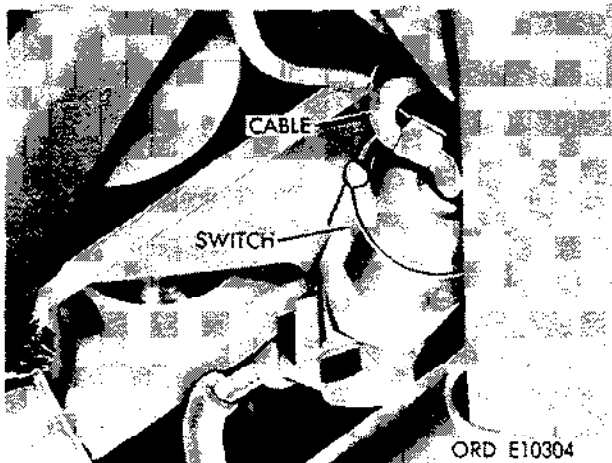

Figure 2-240. Pull connectors from stoplight switch.
(26) Pull connectors from stoplight switch. Stoplight switch is located in bottom of master cylinder (see fig. 2-240).